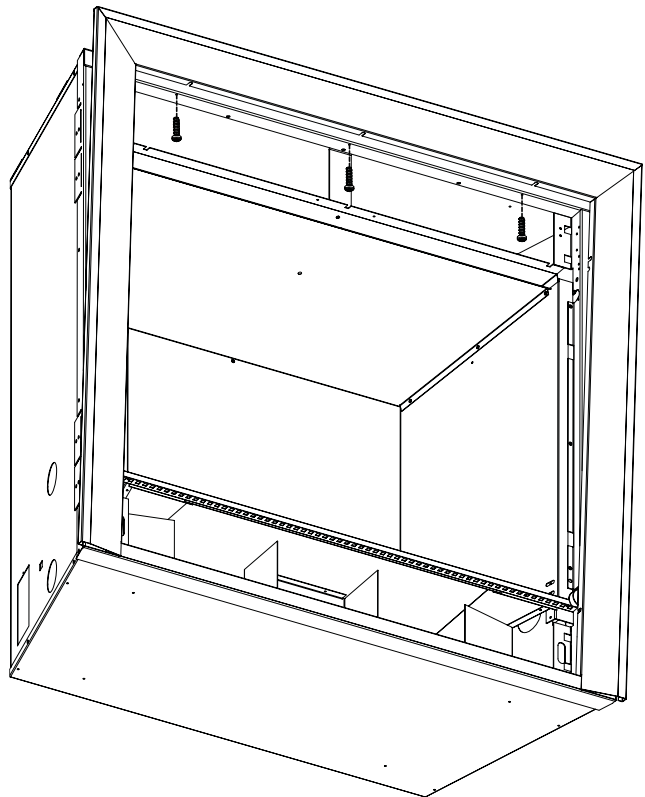

Figure 39
7. Secure the top trim piece to unit by installing supplied screws. See Figure 39.